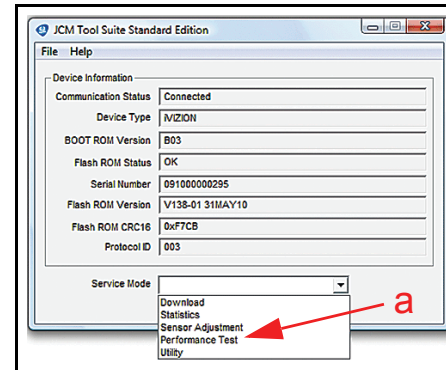
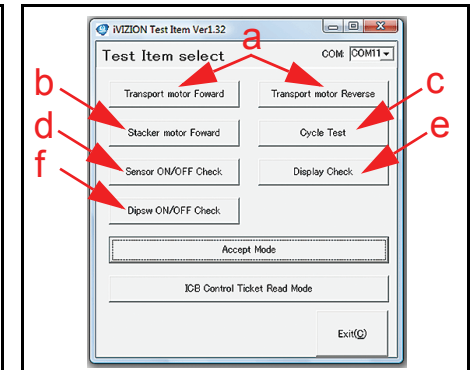

Figure 7 Typical Connected iVIZION JCM Tool Suite Screen
Figure 8 Typical iVIZION Test Item Select Screen
The JCM Tool Suite will be used to complete Functional and Sensor testing of an iVIZION™ Unit. Figure 7 illustrates a typical connected iVIZION™ JCM Tool Suite Screen with the “Service Mode” Pull-down Menu active. To begin a Performance Test Proceed as Follows:
1. Select “**Performance Test**” from the Drop-down Menu (See Figure 7 a). The “**Test Item select**” Screen shown in Figure 8 will appear.
These two (2) Tests runs the Transport Motor in a Forward or Reverse direction (See Figure 8 a).
- A **flashing Yellow** LED indicates a correct Motor speed occurred (See Figure 8 b).
- Normal Operation is indicated when the Test LED remains **OFF** (See Figure 8 c).
- Block each Sensor to test it. The Display will show “ON” or “OFF” indicating the functional status of the Sensor blocked (See Figure 8 d).
- The LEDs will continuously cycle through **Red, Green & Blue** Colors (See Figure 8 e).
- Block each Sensor to test it (See Figure 8 f).